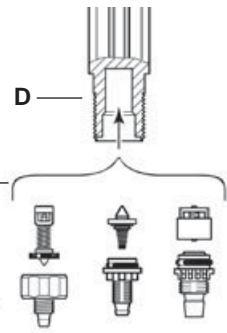

Fig. 17
- Pull downwards to remove the suction valve assembly (Fig. 17).
- Rinse copiously the different parts with clean water, re-assemble them (Fig. 17).
- Put the valve back (Fig. 17-P) in the doser body (Fig. 17-D), push it in the back.